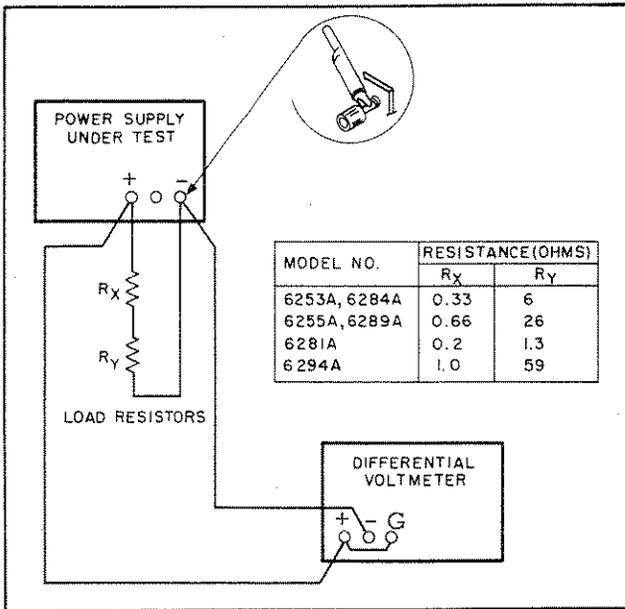

Figure 5-5. Load Regulation, Constant Voltage Test Setup
- a. Connect test setup as shown in Figure 5-5.
- Connect test setup shown in Figure 5-5.